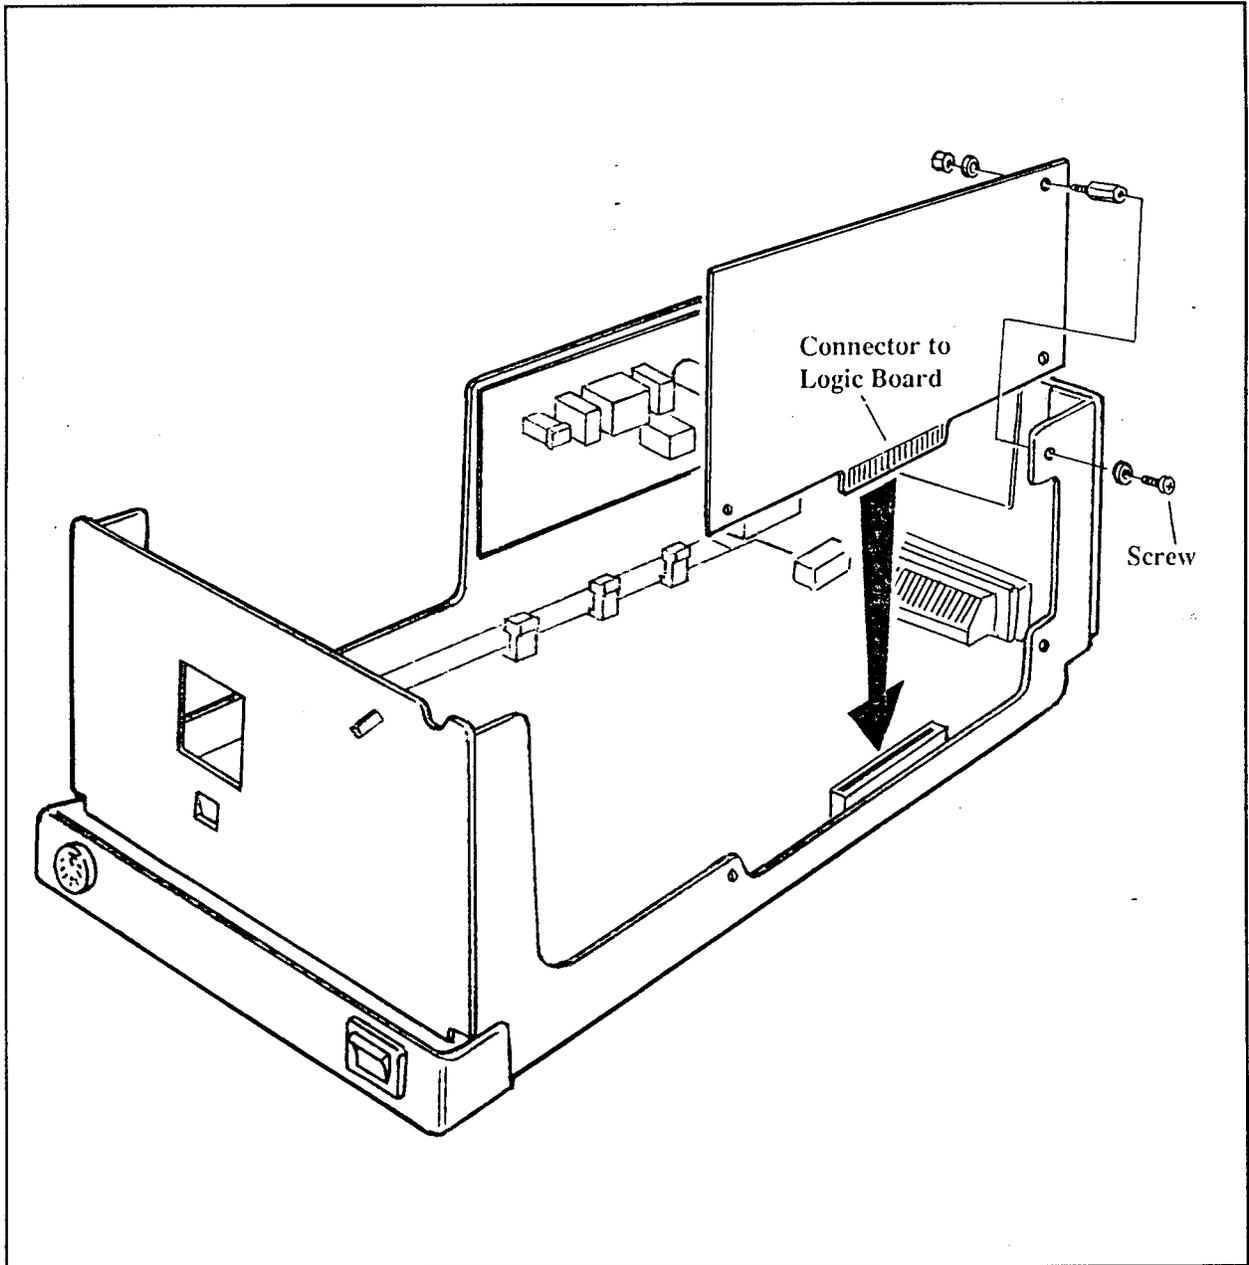

Figure 4-8 Monitor Board Assembly Replacement
- c. Remove the Monitor Board Assembly as described in paragraph H (Figure 4-8).